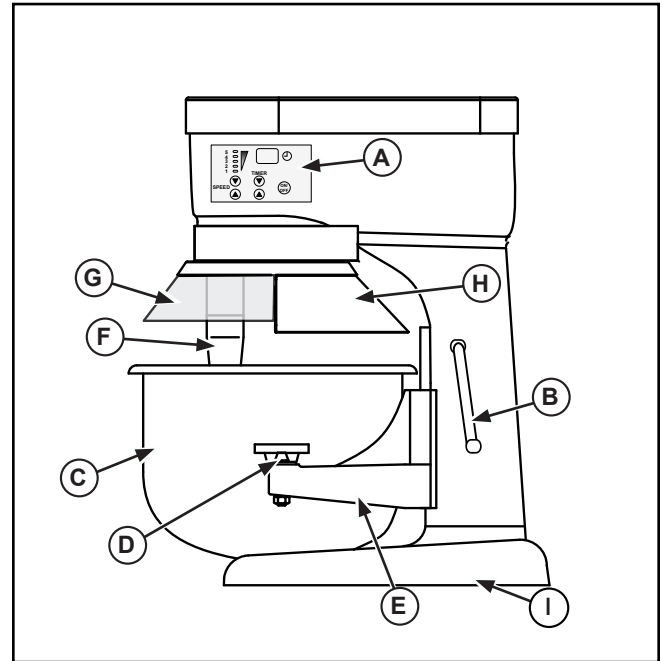

Figure 1. 10 Quart. Mixer, Features and Controls.
- Before attaching the bowl select the mixing attachment you will be using. Place your selected mixing attachment inside the empty bowl (C). Do not attempt to fit the mixing attachment onto the mixing shaft (F) before the bowl is in position. See Figures 1, 2, 3 or 4.
- Lower the bowl cradle to its lowest position by rotating the bowl lift (B) in a clockwise direction.
- Rotate the bowl clamp levers (D) to the out or back position.
- Hold the bowl (C) so that the pin on the bowl is facing in towards the mixer. Position the bowl so that the pin is lined up with the pin slot on the bowl cradle (E). Slide the pin into the slot.
- Align the holes on the bowl tabs with the pins on the bowl cradle (E). Set the bowl (C) on the bowl cradle (E).
- Rotate the bowl clamp levers (D) to the front over the bowl tabs to secure the bowl (C) onto the bowl cradle (E).
- Install the attachment to the mixing shaft (F). Ailing the groove on the attachment with the pin on the mixing shaft. Push the attachment up and rotate to lock onto the pin.
- Raise the bowl (C) to its maximum height using the bowl lift (B) by rotating in a counter clockwise direction until it snaps into place.
- Close the bowl guard (G). See Figure 1. The safety guard must be closed for the mixer to operate. If the safety guard is open or not closed properly then the mixer will not operate.